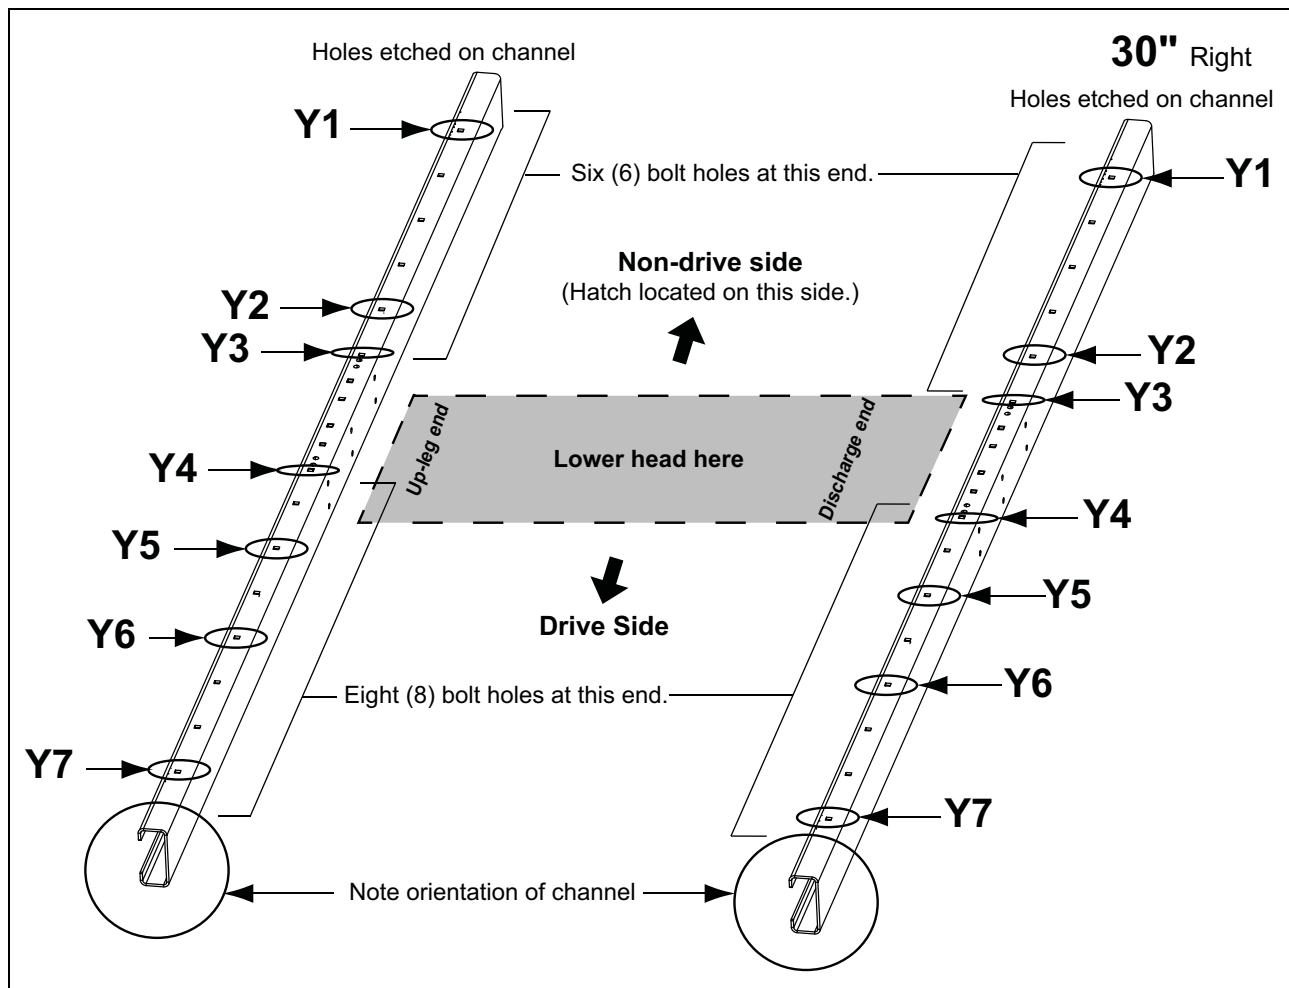
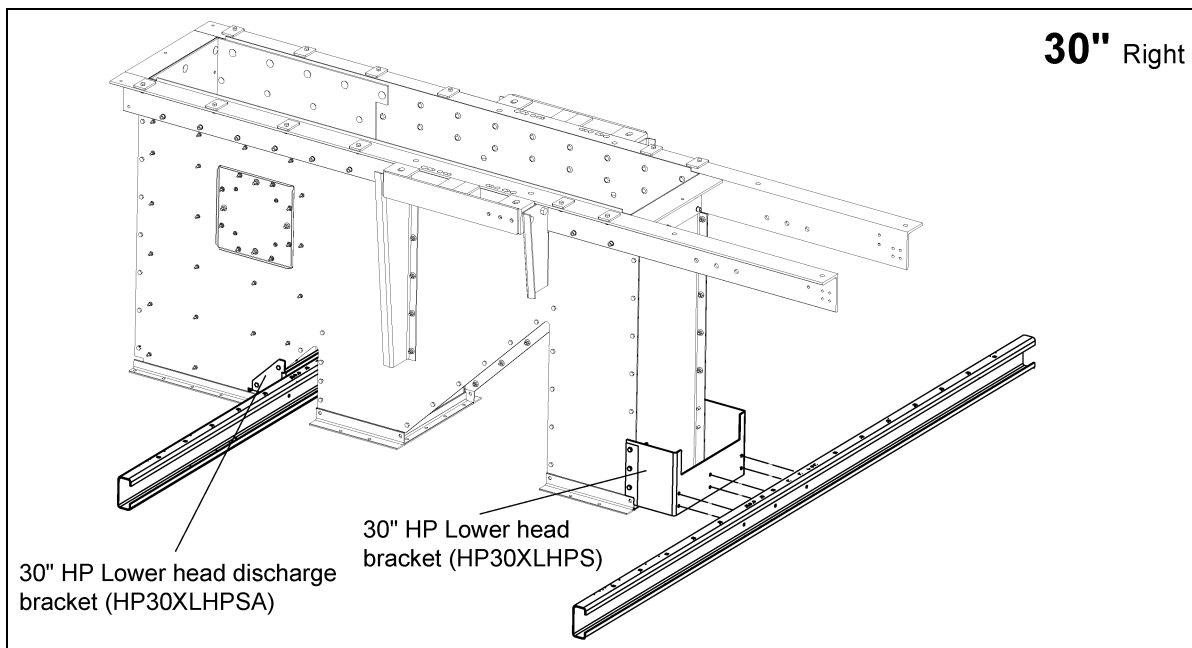

Figure 8D 30" Right Side Drive Channel Position
Figure 8E 30" Right Drive - Cross Deck Support Channels to Lower Head Brackets
(See Figure 8E on Page 65.)
3. Attach cross deck support channels (HP36DSCX) to the top-most set of holes of the lower head brackets (HSP36130) using 3/8" x 1" bolts and nuts and properly. (See Figure 8E on Page 65.)
***NOTE:** *The channels MUST be oriented as shown in Figure 8D and Figure 8E on Page 65 in order for the decking and subsequent assembly to be done correctly.*